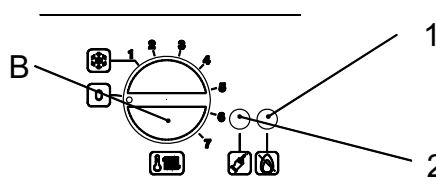

Figure 6.2
- This indicates that the safety lock-out 1 (Fig. 6.2) has stopped the boiler
- To re-start the boiler, it is necessary to turn the function selector B in the position  and then press the boiler reset button 2 (Fig. 6.2).